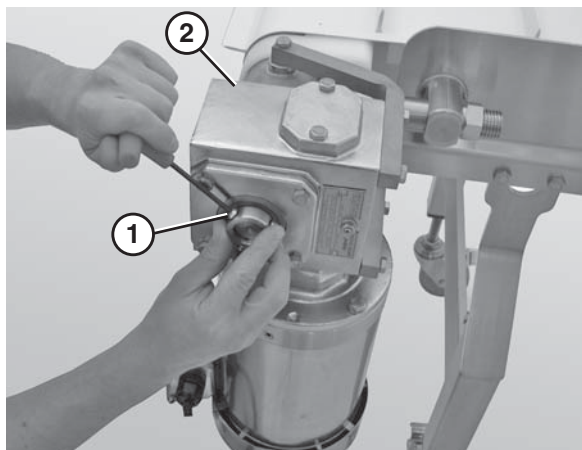

Figure 20
5. Use a 4 mm hex wrench to tighten the outside button head screws (Figure 20, item 1) and the inside button head screws (Figure 20, item 2) that connect the gearmotor to the drive spindle.